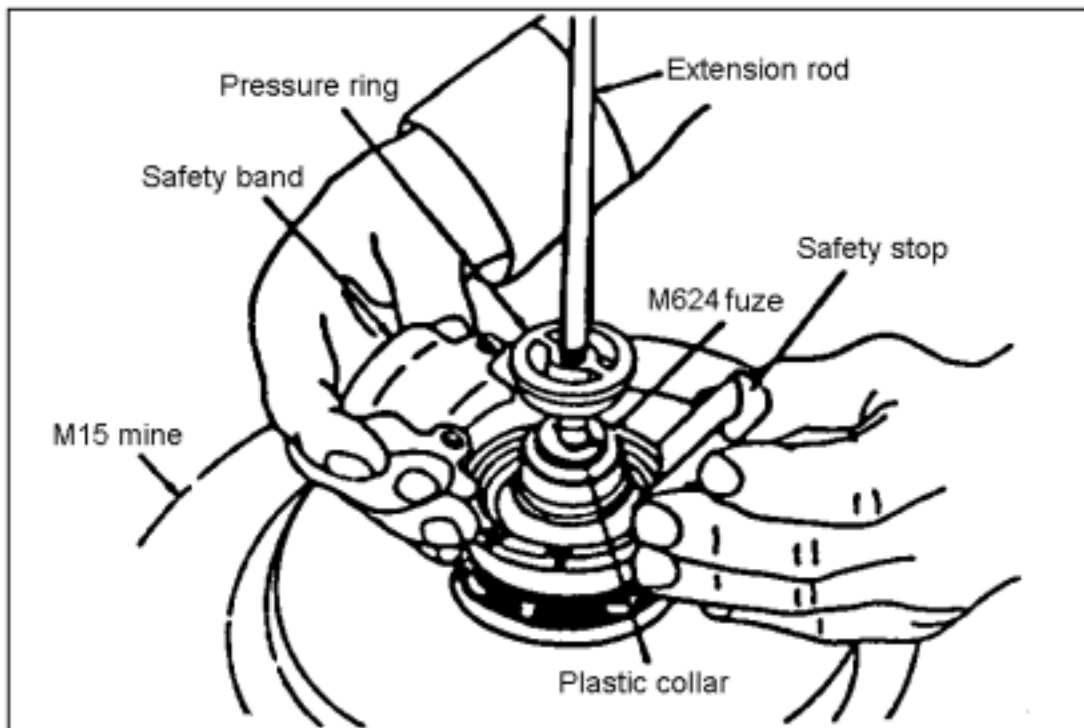

Figure 051-192-1106-1
**REMOVE AN M15 ANTITANK (AT) MINE WITH THE M624 FUZE**
- b. Assemble the safety band and safety stop on the fuze so the pressure ring is immobilized (Figure 051-192-1106-1).